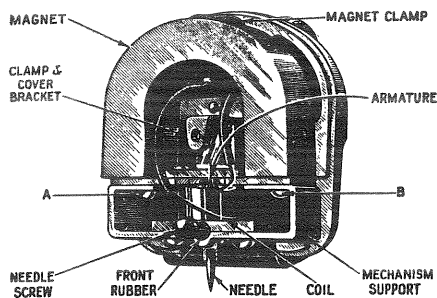

Figure 9—Pickup Nomenclature
In order to replace a defective coil or the hardened pivot rubbers (see Figure 9), it is necessary to proceed as follows:
- (d) Remove screws A and B, Figure 9, and then remove the mechanism assembly from the pole pieces.
- (h) After remagnetizing, it is necessary to correctly center the armature. This may be done quite accurately by feeling its play after the needle is inserted. A little practice will quickly show which way an adjustment is necessary to have the armature centered properly. The adjustment is made by loosening screws A and B (Figure 9), and sliding the mechanism into proper relation with the pole pieces.